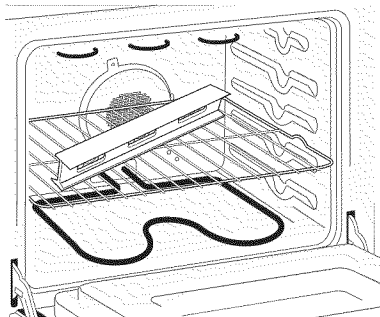
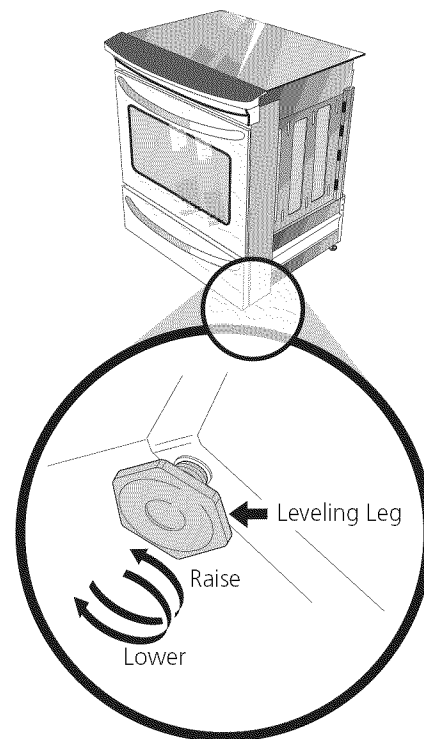

Figure 9
Figure 14
3. Check if the range is level by installing an oven rack in the center of the oven and placing a level on the rack (Figure 9).
2. Place a level on the rack (see Figure 9). Take 2 readings with the level placed diagonally in one direction and then the other. Level the range, if necessary, by adjusting the 4 leg levelers with a wrench (see Figure 14).